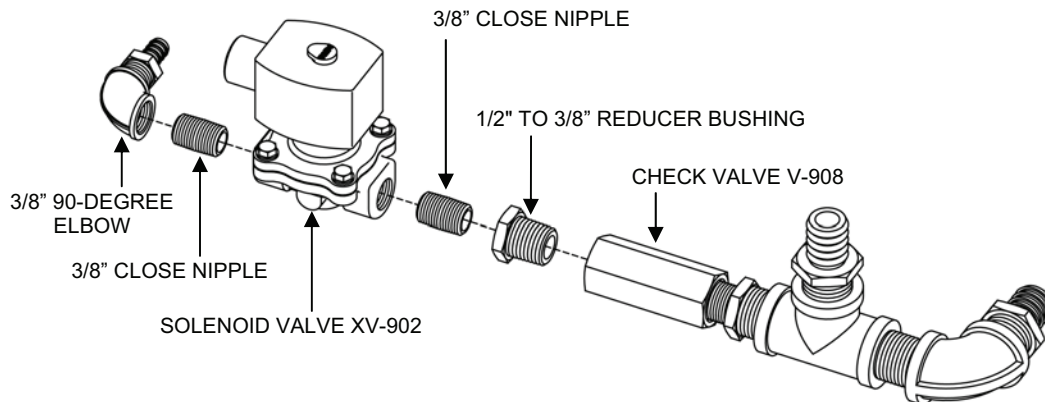

Figure 8. Solenoid Valve XV-902.
3. Remove Solenoid Valve XV-902 from the Air System Section 4 assembly as follows (see Figure 8):
- c. Thread the close nipple on the output side of the solenoid valve into the reducer bushing. Do not over-tighten. Refer to Figure 8 for correct positioning of the valve.
- d. Thread the elbow onto the close nipple on the other end of the solenoid valve. Do not over-tighten. Refer to Figure 8 for correct positioning of the elbow.